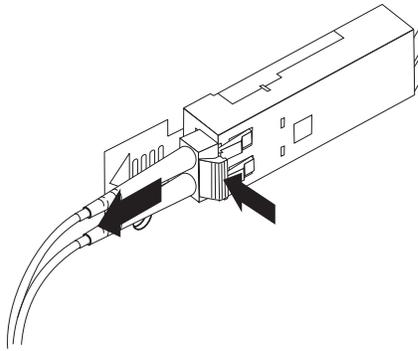

Figure 22. Removing the LC-LC Fibre Channel cable
2. Carefully pull on the connector to remove the cable from the SFP module as shown in Figure 22 on page 26.